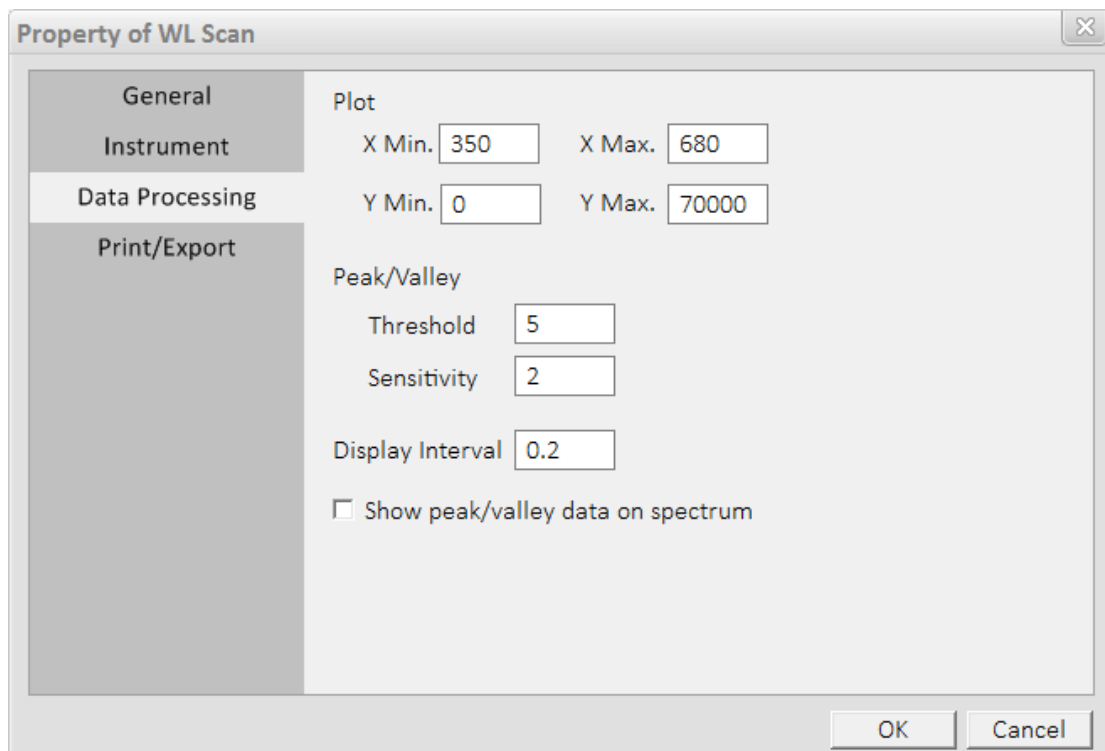

Figure 3-28 Dialog box of Data Processing after clicking the “View parameters” button for WL Scan
- The third page is the parameters of “Data Processing”, as shown in Figure 3-28. All parameters can be re-entered.